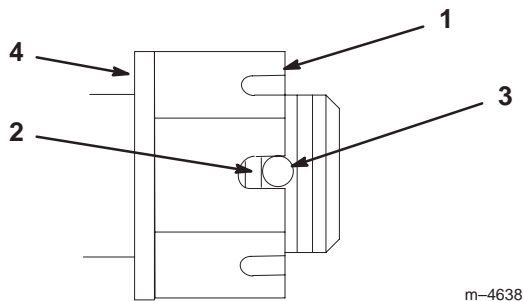

Figure 50
3. Torque slotted nut to 125 ft.-lb. (169 N•m) (Fig. 50).
4. Check the distance from bottom of slot in nut to inside edge of hole. Two threads or less should be showing (Fig. 50).
5. If more than two threads are showing remove nut and install washer between hub and nut (Fig. 50).
6. Torque the slotted nut to 125 ft.-lb. (169 N•m) (Fig. 50).
7. Tighten nut until the next set of slots line up with the hole in the shaft (Fig. 50).